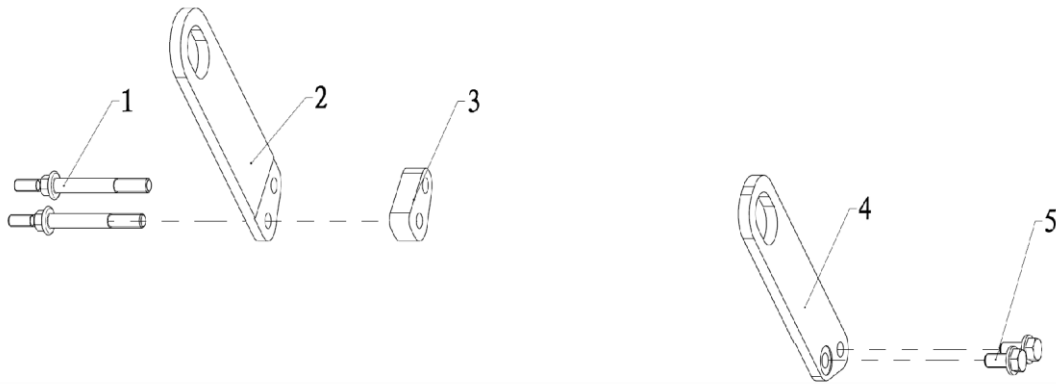

Fig. 4-5 Engine hanger plate subassembly and installation location schematic
- Installation location of engine hanger plate and bolts are shown in fig. 4-5.